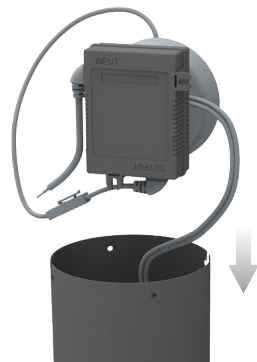

Fig 5.3
5.3 Put the control box and adapter together back into the fan bucket as shown in Fig 5.3.